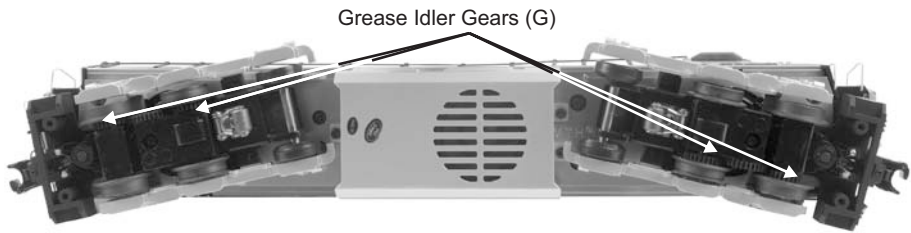

Figure 8: Grease Points
1. To access the gear box, remove the cab from the chassis by unscrewing the body mount screws as seen in Figure 8 and lifting the cab from the chassis.
2. Once the cab is removed, remove the trucks by unscrewing the black Phillips motor mount screw located on the underside of the drive trucks (see Fig. 8).
First, remove the trucks from the chassis by unscrewing the body mounting screws as noted in Figure 8. Next, remove the trucks from the chassis by unscrewing the truck mounting screw also noted in Figure 8. Finally, turn the removed truck over and locate and remove the truckside screws to gain access to the drive wheel traction tires behind the truckside.